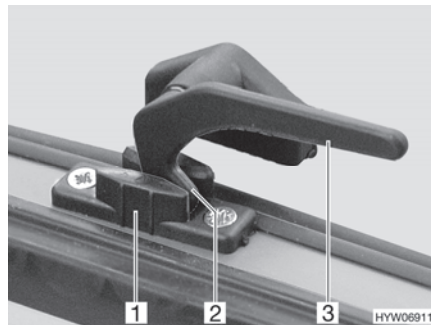

Fig. 38 Catch lever in "continuous ventilation" position
- "Continuous ventilation" (Fig. 38)
- Turn all catch levers (Fig. 38,3) a quarter turn towards the centre of the window.
- Return all catch levers to their initial position. The locking catch (Fig. 38,2) has to be moved into the recess of the window catch (Fig. 38,1).